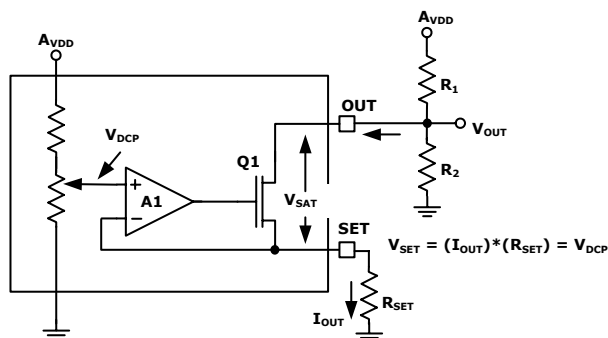

FIGURE 5. CURRENT SINK CIRCUIT
**Electrical Specifications** Test Conditions:  $V_{DD} = 3.3V$ ,  $V_{AVDD} = 18V$ ,  $R_{SET} = 5k\Omega$ ,  $R_1 = 10k\Omega$ ,  $R_2 = 10k\Omega$ , (See Figure 5); unless otherwise specified. Typical values are at  $T_A = +25^{\circ}C$ . **Boldface limits apply over the operating temperature range, -40 $^{\circ}C$  to +85 $^{\circ}C$ .**
**Electrical Specifications** Test Conditions:  $V_{DD} = 3.3V$ ,  $A_{VDD} = 18V$ ,  $R_{SET} = 5k\Omega$ ,  $R_1 = 10k\Omega$ ,  $R_2 = 10k\Omega$ , (See Figure 5); unless otherwise specified. Typical values are at  $T_A = +25^\circ C$ . **Boldface limits apply over the operating temperature range,  $-40^\circ C$  to  $+85^\circ C$ .** (Continued)
Figure 5 shows the schematic of the OUT pin current sink. The circuit made up of amplifier A1, transistor Q1, and resistor RSET forms a voltage controlled current source.